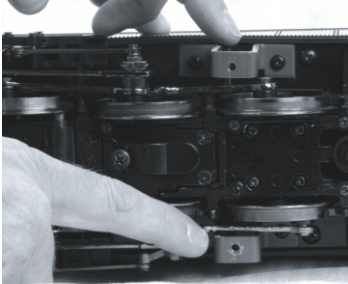

Figure 33
2. Install the 2 U-shaped brackets onto the bottom of the tender chassis using the mounting holes in the floor. Make sure that the notches in the sides of the bracket face toward the inside of the tender. (Fig. 33)